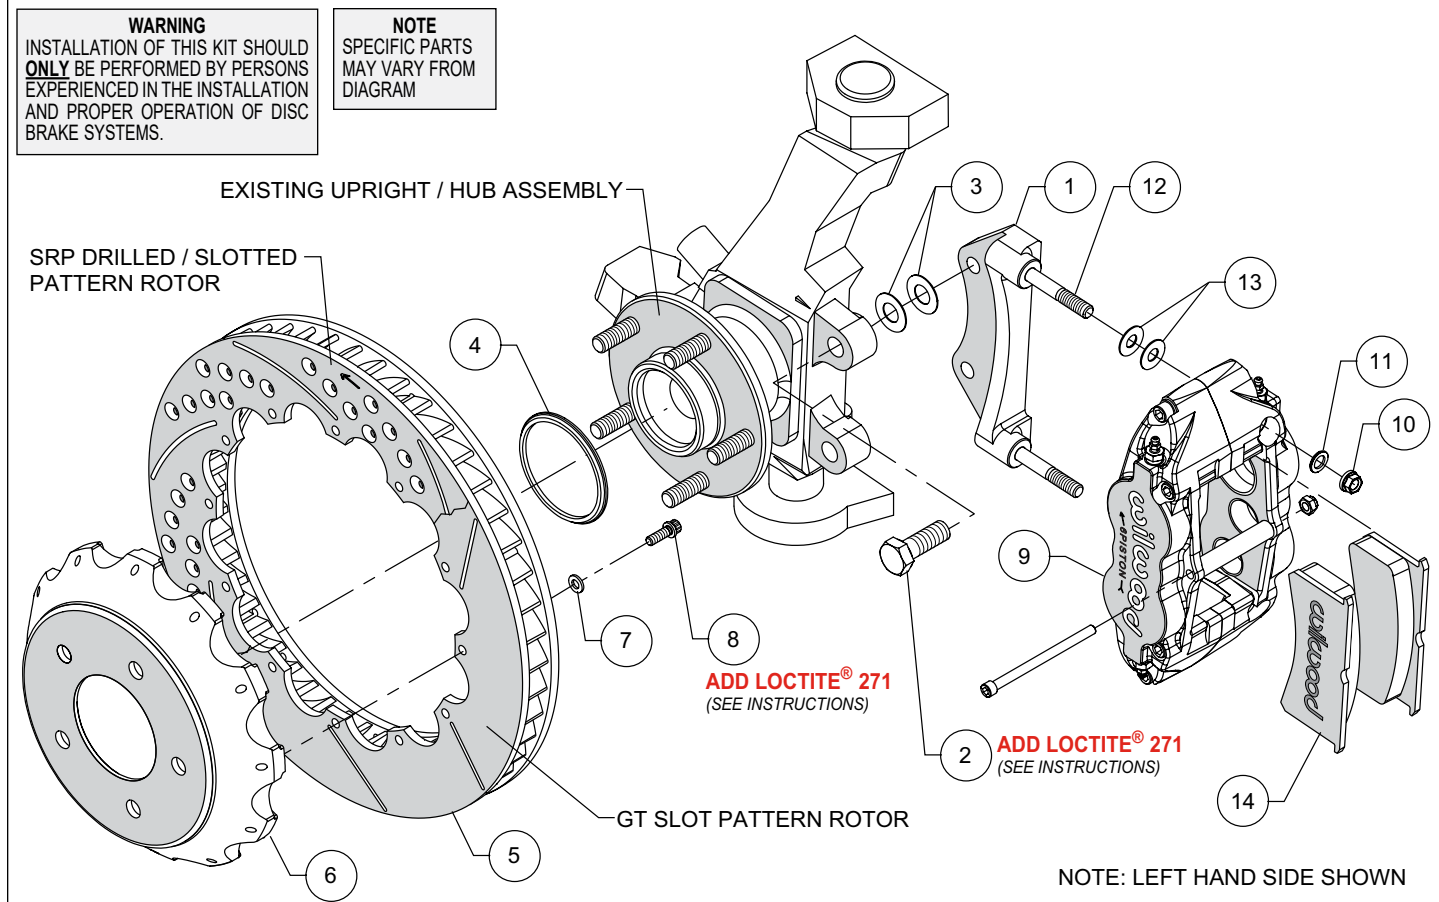
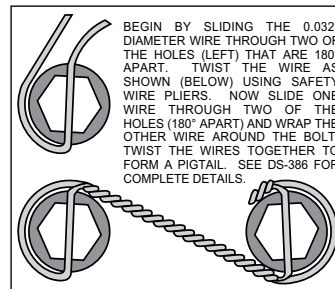

Figure 1. Typical Installation Configuration
Figure 3. Safety Wire Diagram
NOTE: Numbers in parenthesis refer to the parts list and Figure 1 on the preceding pages.
- The caliper mount bracket (1) should initially be installed with clean, dry threads on the mounting bolts. Orient the bracket as shown in Figure 1 and Photo 1, and install using shim washers (3) and bolts (2). Initially place two shims (3) on each bolt between the bracket and upright, Figure 1. Temporarily tighten the mounting bolts. **NOTE:** *The bracket must fit squarely against the mount bosses on the upright.* Inspect for interference from casting irregularities, machining ridges, burrs, etc. Later, after the caliper alignment has been checked, the mount bolts will be secured using red *Loctite*® 271.
- Orient the rotor (5) and the hat (6) as shown in Figure 1 and Photo 2. Attach rotor to hat using bolts (8) and washers (7). Apply red *Loctite*® 271 to the bolt threads and torque to 155 in-lb using a criss-cross pattern. For an added measure of security, the bolts may be safety wired using standard 0.032 inch diameter stainless steel safety wire as shown in Figure 3. Please refer to Wilwood's data sheet DS-386 (available at www.wilwood.com/Pdf/DataSheets/ds386.pdf) for complete safety wire installation instructions.
- Slide the rotor registration adapter (4) onto the axle register on the axle hub with the smaller O.D. facing outward, Photo 3. Slide the hat/rotor assembly onto the axle hub. **NOTE:** *The hat must fit flush against the axle hub flange or excessive rotor run out may result.* Install three lug nuts (finger tight) to keep the hat/rotor assembly in place while continuing with the installation.
- NOTE:** *This kit contains distinct right and left hand calipers that must be mounted in a specific direction, as described below.* Initially place two .035" thick shims (13) on each stud (12) as shown in Figure 1 and Photo 4. Mount the caliper (9) onto the bracket (1) using lock nuts (10) and washers (11), Figure 1. Ensure that the caliper is mounted so that the largest pistons are at the rotor exit end of the caliper, in relation to the direction of rotor rotation. Temporarily tighten the lock nuts and view the rotor through the top opening of the caliper. The rotor should be centered in the caliper, Photo 5. If not, adjust by adding or subtracting shims (3) between the bracket and the upright. Always use the same amount of shims on each of the two mounting bolts. Once the caliper alignment is correct, remove the bracket mounting bolts one at a time, apply red *Loctite*® 271 to the threads, and torque to 75 ft-lb.